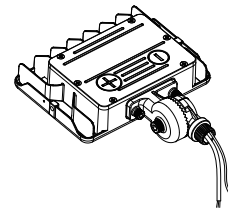

figure 1.3
Step 4: finished. (figure 1.3)